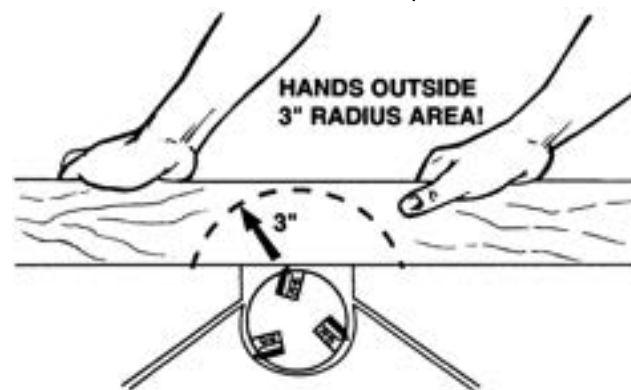

FIGURE 1
**Three-inch rule.** When working a piece of wood on the jointer, follow the 3-inch radius rule. The hands must never be closer than 3 inches to the cutterhead. See Figure 1.